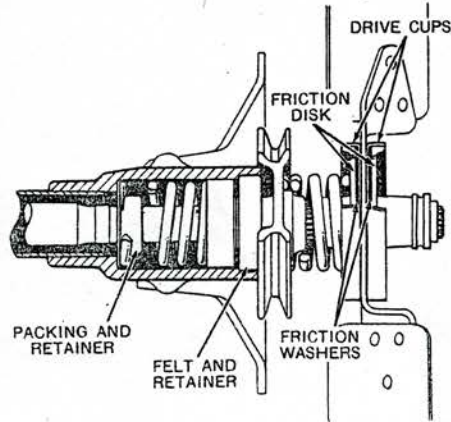

Fig. 16B Cutaway view of Model 60 fan assembly. Model 50 is similar
**MODELS 50, 60**—The fan shaft, Fig. 16B, is driven directly by the governor through a bevel gear and pinion. Adjustments can be made to compensate for gear wear by adding or removing shims under the fan shaft rear bearing housing and the governor case left-hand bearing housing.
The fan is not attached directly to the fan shaft or drive pulley. A clutch-type coupling, Fig. 16B, is utilized to reduce shock to the bevel gears due to rapid changes in engine speed.